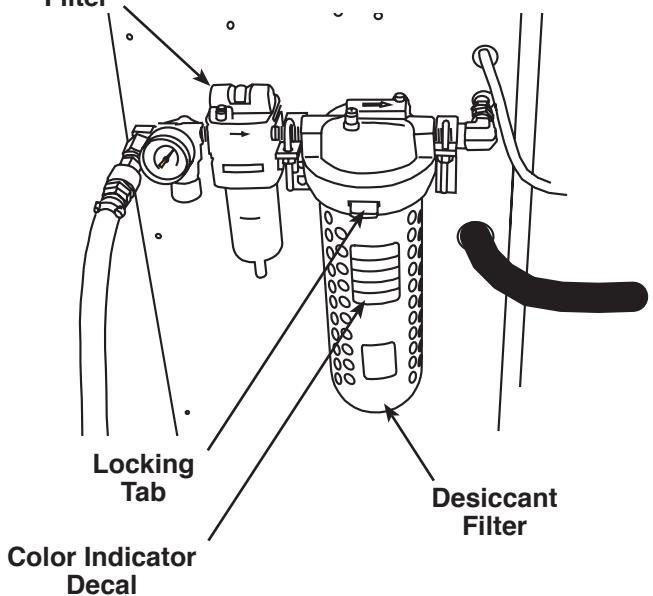

Figure 15
3. Remove the bowl from the dryer housing by depressing the locking tab and rotating the locking ring counterclockwise until the bowl can be pulled downward. See Figure 15.